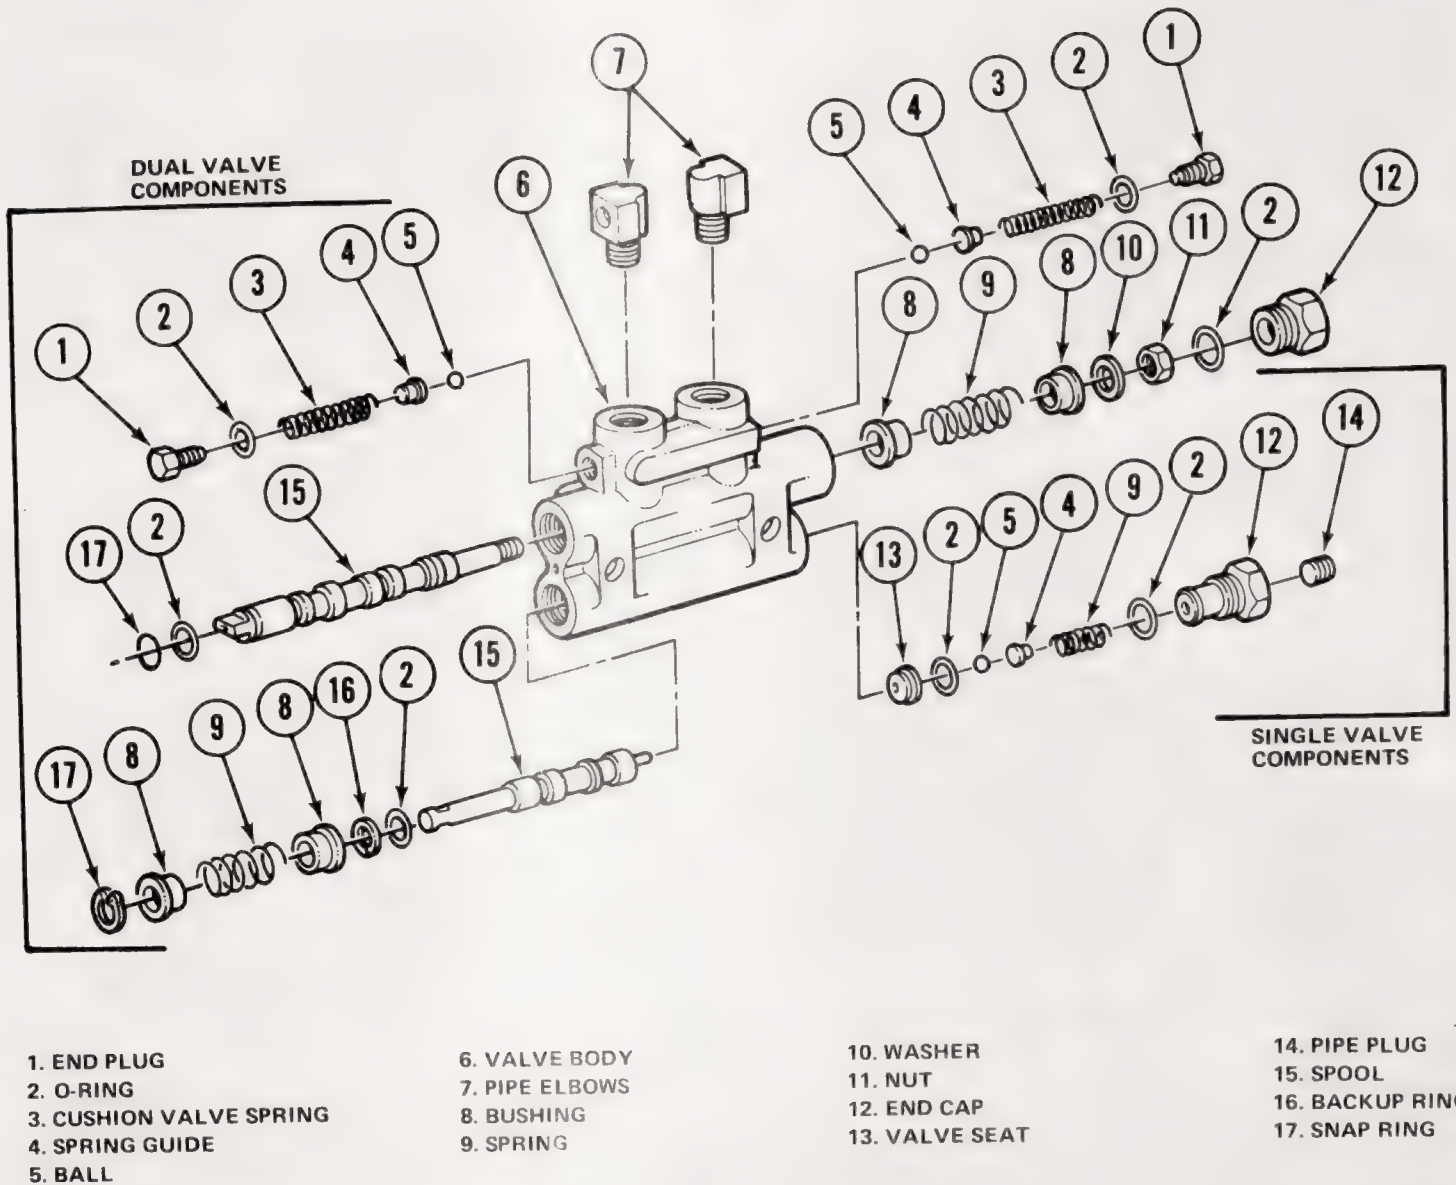

Fig. 1-45 Spool Valve Assembly
(7) Inspect bushing sleeve for excessive wear in displacement-type units. Inspect bushing sleeve, piston, and piston follower for excessive wear in cup-type units.
(8) Inspect cylinder for excessive scoring and pitting in bore and tank cylinder for damaged surfaces.
(9) Inspect ram for nicks and rust. Inspect piston packing cup for excessive wear or cut sealing lip on cup-type units. Replace parts if any of these conditions exist.
(10) Discard O-ring and split-bushing sleeve. Check pump base casting for cracks, damage, or wear.
(11) Remove and inspect check valve seat, ball, spring guide, spring, and retainer for damage.
(12) Remove and discard O-rings in pump base.
(13) Remove snap ring, bushings, and spring (fig. 1-45).
(14) Remove spool, O-ring and backup ring from bore.
(15) Remove end cap and pipe plug.
(16) Remove O-ring, spring, spring guide, ball, O-ring, and valve seat.
(17) Remove end cap and O-ring. Push spool in bore from opposite end until it stops. Hold flat end of spool while removing nut and washer from other end. Remove bushings, spring, and spool from bore.
(18) Remove snap ring and O-ring.
(19) Remove end plug and O-ring. Remove spring, guide, and ball. Repeat procedure for other crossover relief valve.
(20) Remove elbows.
(21) Inspect valve body (single or dual) for cracks, damage, or scored bores. Spools must be free from indentations or deep scratches. Seat should be inspected for imperfections or scratches. Replace if damaged. O-rings and backup rings should be discarded.
(1) Assemble valve seat, ball, and O-ring into threaded end of bore in valve body (fig. 1-45).
(2) Assemble O-ring into groove on end cap and install spring and spring guide into bore.
(1) Install ball, spring guide, and cushion valve spring into valve body (fig. 1-45).
(2) Install O-ring into groove of end cap. Install end cap and O-ring assembly into bore and tighten. Repeat procedure for opposite side.
(1) Assemble O-ring and snap ring onto spool and insert spool assembly into bore (fig. 1-45).
(2) Hold flat end of spool and insert bushings, spring, and washer through bore from opposite (threaded) end. Secure with locknut.
(3) Install O-ring into groove of end cap. Install end cap assembly into bore and tighten. Spool must move freely in bore.
(4) Install pipe elbows.